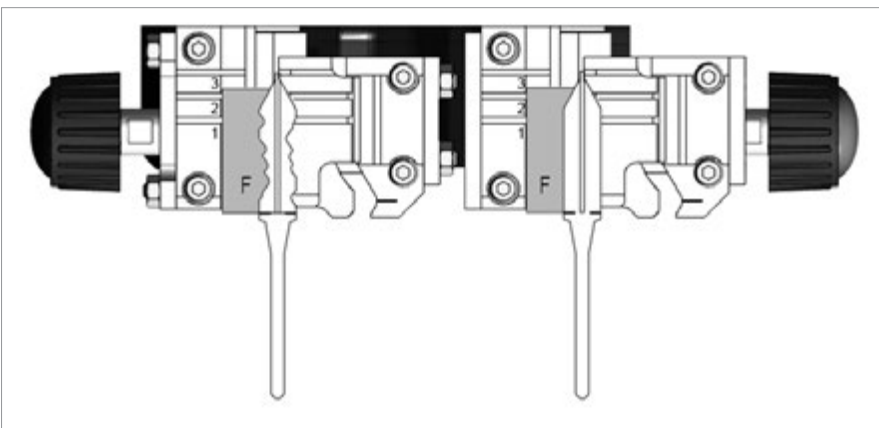

Fig. 52
- 3) Insert the keys taking the stop up against the adapter (Fig. 52).
- 4) Secure adapters and keys by tightening the knobs (E) (E1).